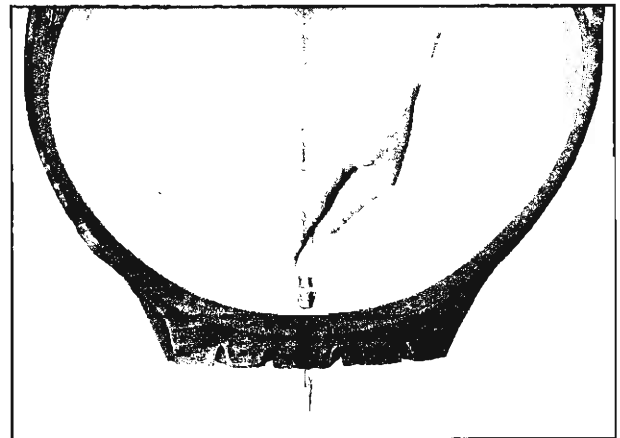

Fig. 47—Installing Needle in Tire Hole
- a. Clean awl needle and dip in Self-Vulcanizing Fluid. From inside of tire, force needle through tire until point extends beyond tread (fig. 47).